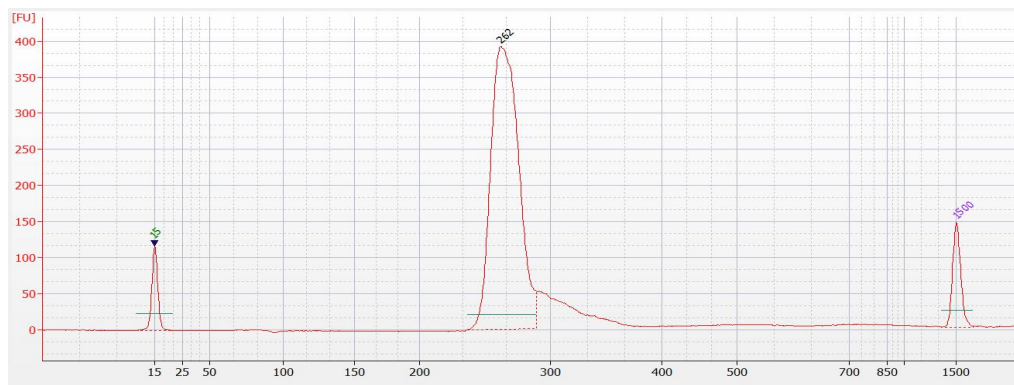

Figure 2. Example of Library Size Distribution on Agilent 2100 Bioanalyzer
the main peak of the targeted DNA fragment size should be at 230~370 bp, without obvious non-specific peaks of small and big fragments, as shown in Figure 2.
- The library distribution shown in the Figure 2 above was assessed using Agilent 2100 Bioanalyzer system and Agilent DNA 1000 Reagents. The peak at 15 bp stands for the lower marker; and the peak at 1500 bp stands for the upper marker.